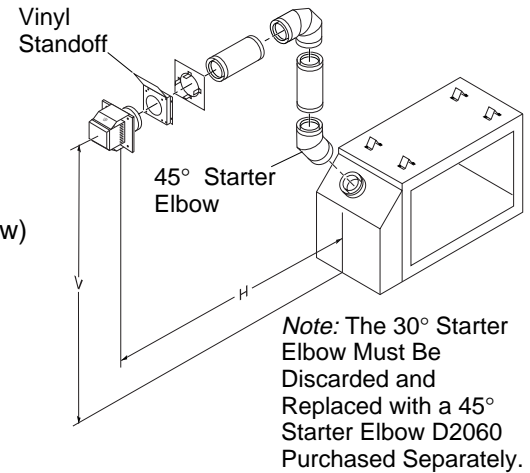

Figure 18 - Horizontal Termination Configuration for Rigid Venting Using One 90° Elbow
Figures 18 through 20 show different configurations for venting with horizontal termination. Each figure includes a chart with vertical minimum/maximum and horizontal maximum dimensions which must be met. All connections must be sealed with high temperature silicone sealant (outer pipe only) as specified in the second warning statement on page 6. All horizontal terminations require 1/4" rise per 12" of horizontal run.
See information in Figure 18 for Vertical (V) and Horizontal (H) maximums and minimums. The same amounts apply for flexible venting.